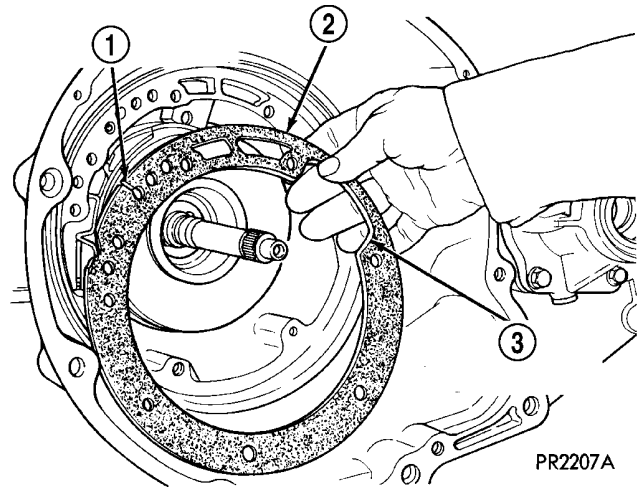

Fig. 58 Oil Pump Gasket
(17) Install oil pump gasket (Fig. 58).